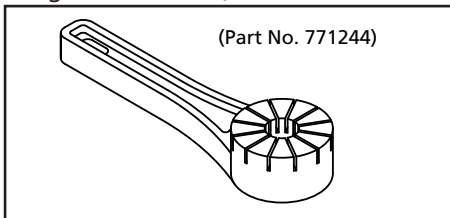

Figure 22
- For 6PY35B, 6PY36B, 6PY40A, 6PY41A, 3HJV9, 3HJW2A Remove the coned disk spring, center disk and diaphragm. Use Accessory tool (special tool:Part No. 771244) for removing the center disk (See Figures 22 and 23).
- For 6PY35B, 6PY36B, 6PY40A, 6PY41A, 3HJV9, 3HJW2A Tighten the center disk using the Accessory tool(special tool:Part No. 771244)(See figures 22)